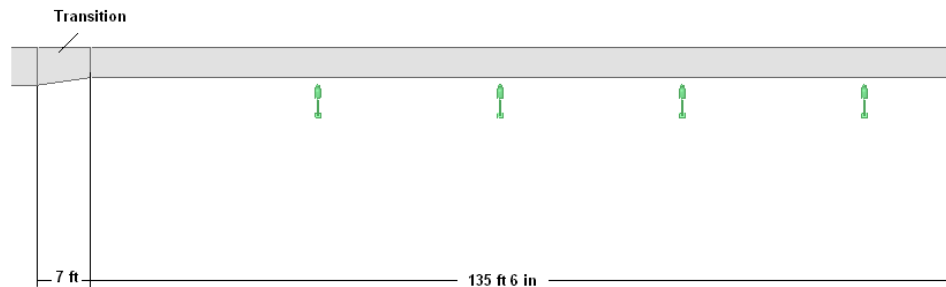

Figure 6: Plan View
30. Select the End of the transition and continue routing the trenches in the east E direction as shown in Figure 6.